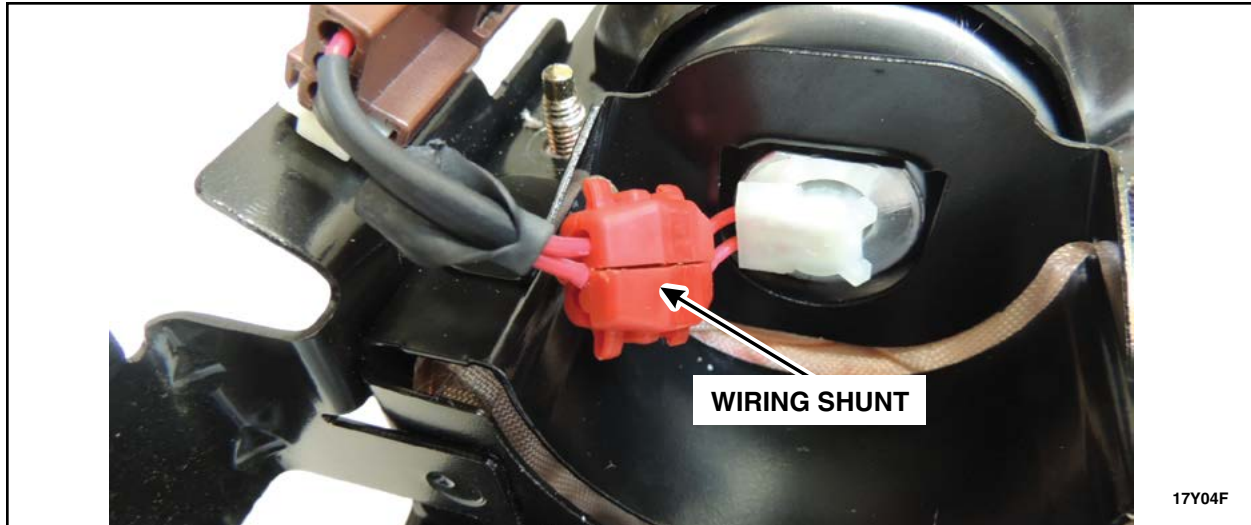

FIGURE 8
2. Install a wiring shunt between the inflator wiring connector and the inflator body, this will cause the inflator to become inert. See Figure 8.